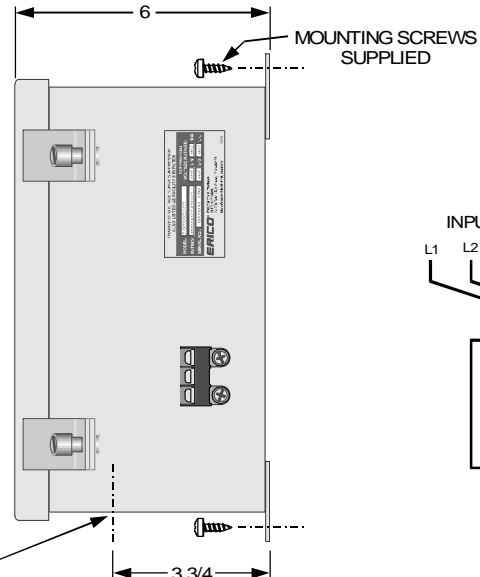

FIG. 2
- b) Mount unit with (4) #12 x 3/4-lg. screws supplied. See FIG. 2